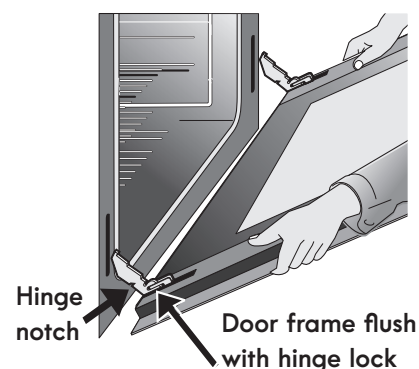

Figure 32: Remove door position
4. Pull the bottom of the door toward you while rotating the top of the door toward the appliance to completely disengage the hinge levers (Figure 32).
1. Firmly grasp both sides of oven door along the door sides. Do not use the oven door handle (Figure 32).
2. Hold the oven door at the same angle as the removal position. Carefully insert the hinge levers into the oven frame until you feel the hinge levers are seated into the hinge notches. The hinge arms must be fully seated into the hinge notches before the oven door can be fully opened. (Figure 32).